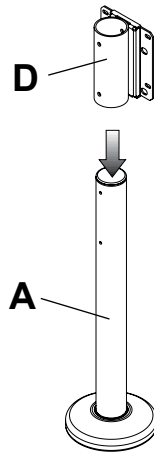
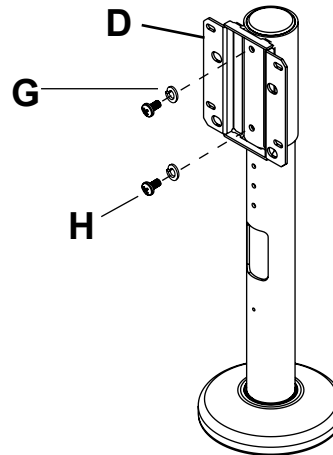

fig. 8.1
fig. 8.2
Adapter plate support box (D) is adjustable up to 6" at 1" increments. Attach adapter plate support box (D) to support tube (A) as shown in fig 8.1, then fasten two 1/4-20 x 1/2" phillips screws (H) and two split washers (G) through adapter plate support box (D) and support tube (A), as shown in fig. 8.2.